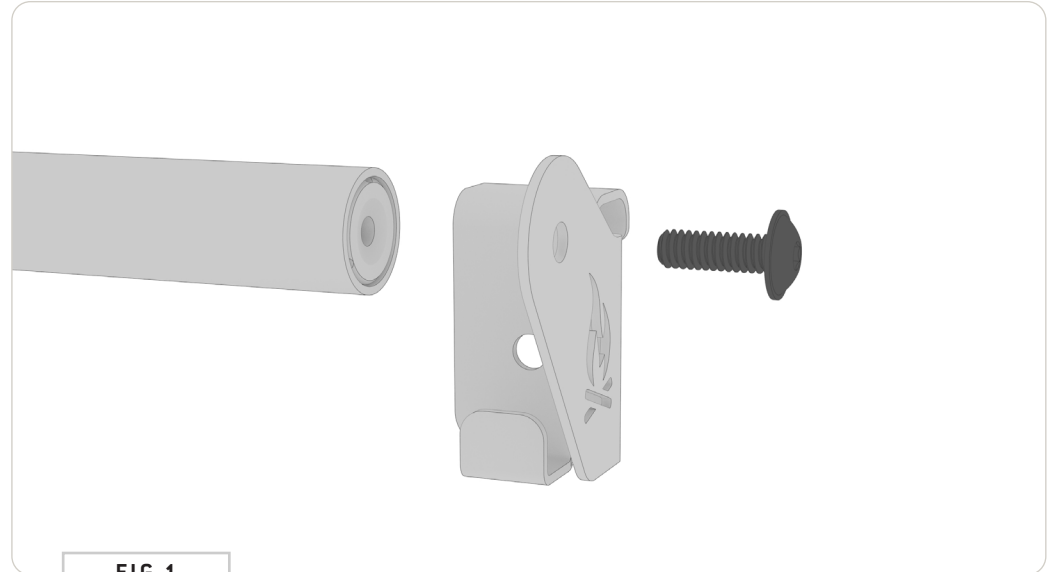
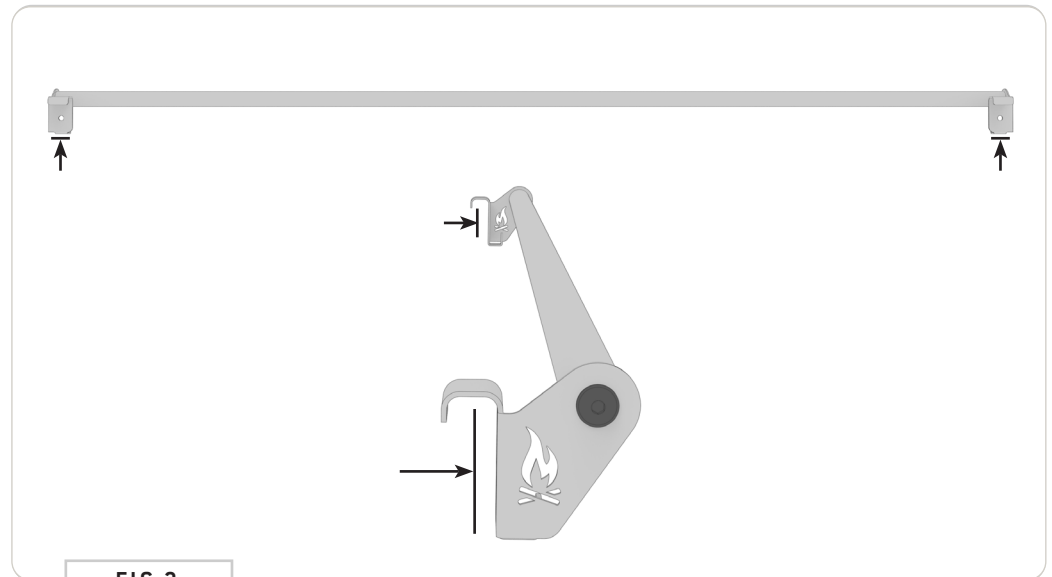

FIG 1
FIG 2
1.1 Assemble Curtain Rod: Use (1ea) 1/4-20 X 0.75" Flanged Button Head Screws with Loctite to install Driver and Passenger Side Brackets on the end of the Curtain Rod Weldment (FIG 1). Align the brackets so the mounting faces are parallel (FIG 2) and tighten the screws.